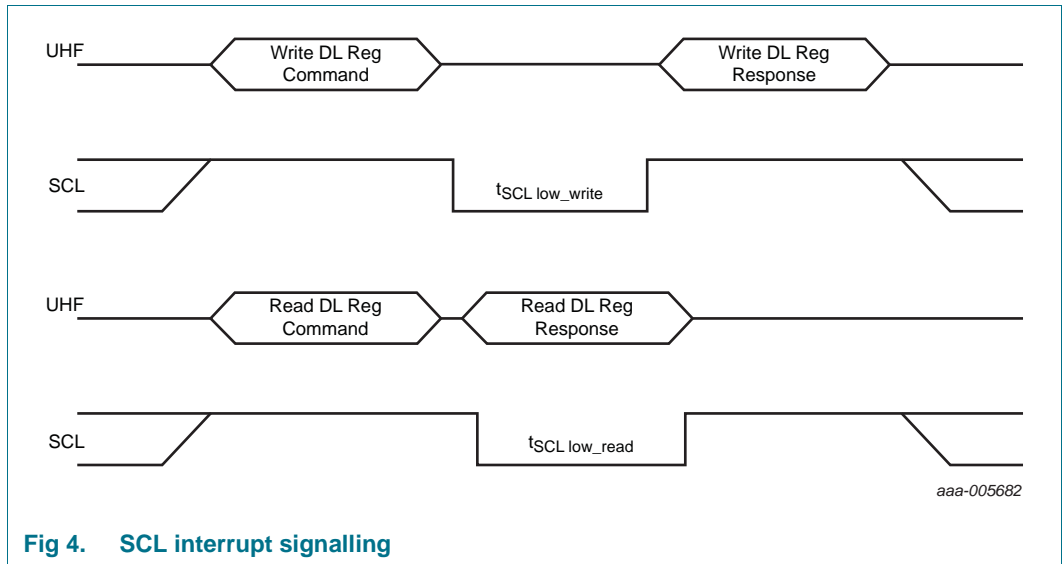

Fig 4. SCL interrupt signalling
- If the SCL INT enabler of the ConfigWord is set (20Bh) the SCL line will be pulled low for at least 210 μs in case new data was written by the reader or at least 85 μs in case new data has been read by the reader (see Figure 4 "SCL interrupt signalling" and Table 7 "Interrupt signaling via the I²C-SCL line timing").